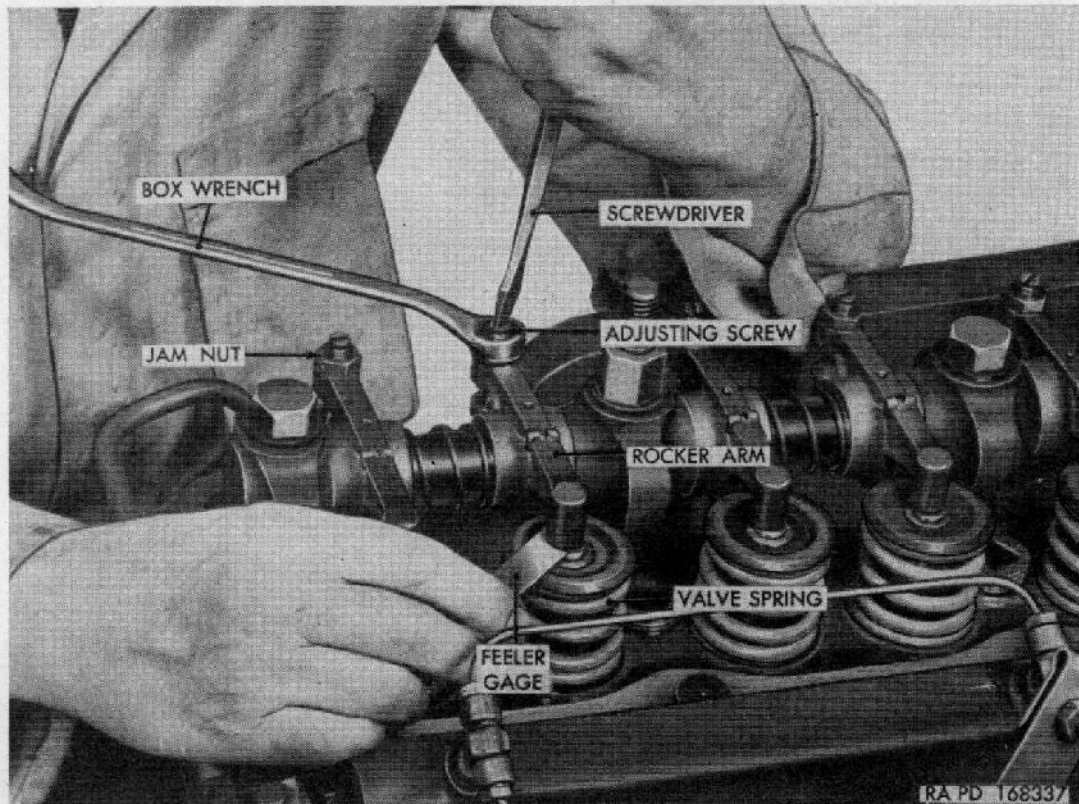

Figure 39. Valve clearance adjustment.
(fig. 39)
c. **CHECK AND ADJUST VALVE CLEARANCE.** Start engine (par. 41). With engine at normal operating temperature and idling, insert 0.015-inch feeler gage between rocker arm and valve stem at each valve. Using a wrench and screwdriver, loosen valve-adjusting-screw jam nut, and tighten or loosen valve-adjusting screw until proper clearance is obtained (fig. 39). Hold screw in adjusted position, tighten jam nut, and again check clearance. Use same procedure to adjust all valves to 0.015-inch clearance.